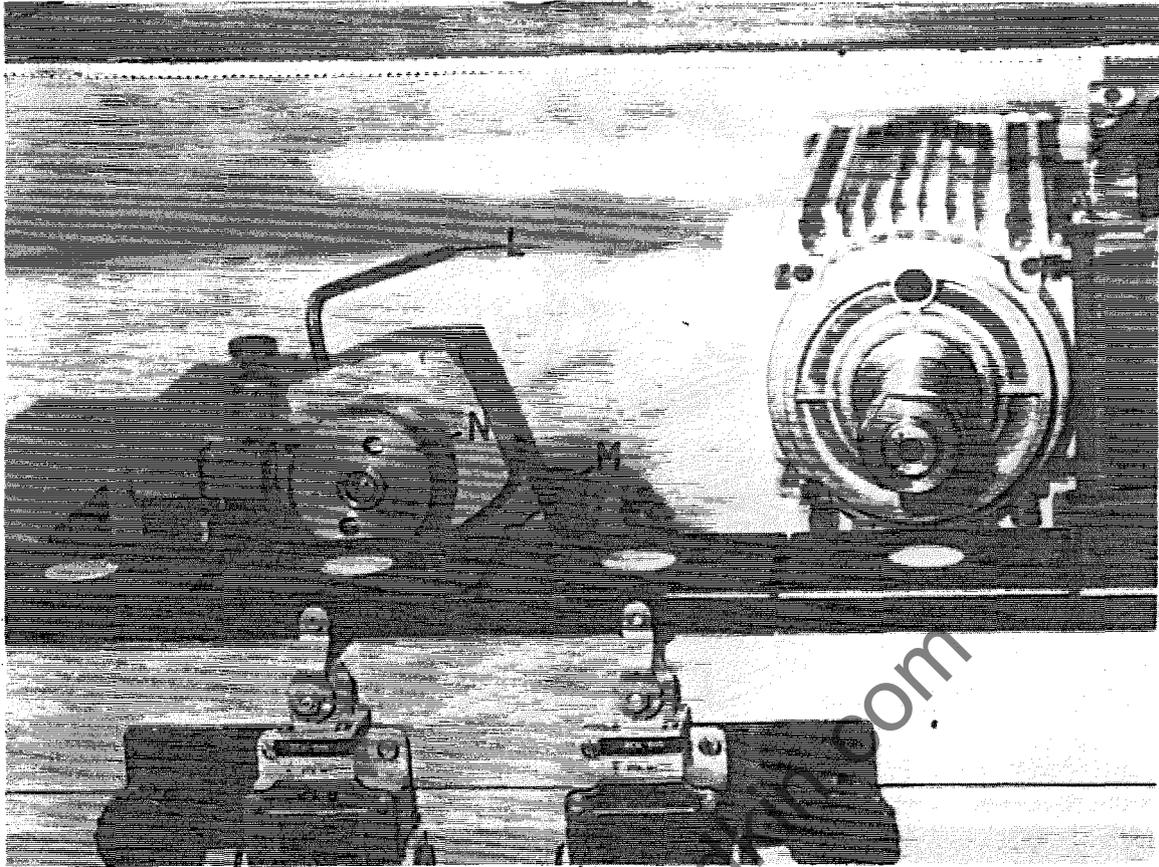

FIG. 50
- a) Loosen countersunk socket capscrew with allen key "L" (supplied) FIG.50.